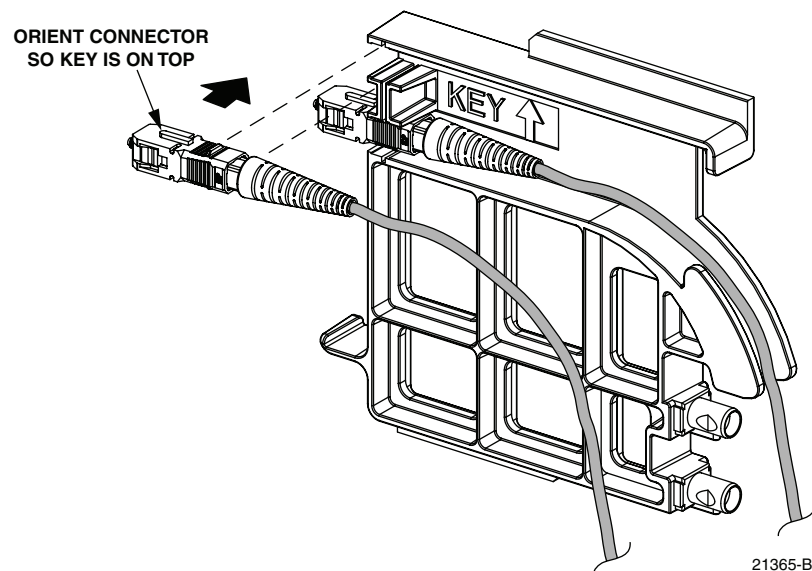

Figure 46. Installing Patch Cord Connector in Dust Cap Assembly
8. Install the patch cord connector in the dust cap assembly as shown in Figure 46.